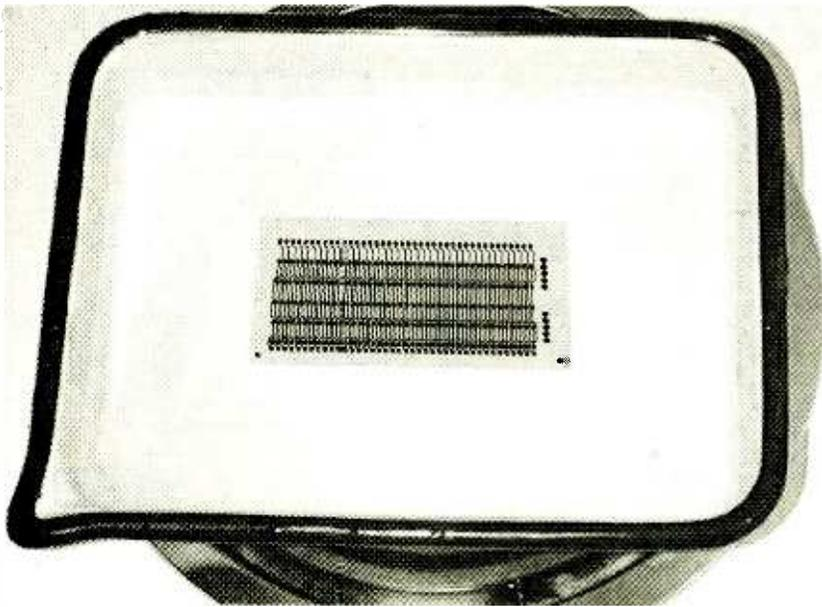

Fig. 4. Once the pattern has been transferred, place the foil in an etchant tray filled with sodium persulphate and etch in the normal fashion
8. Prepare the sodium persulfate etchant per the package instructions and place it and the foil into the etchant tray. Etch in the normal fashion. See Fig. 4.